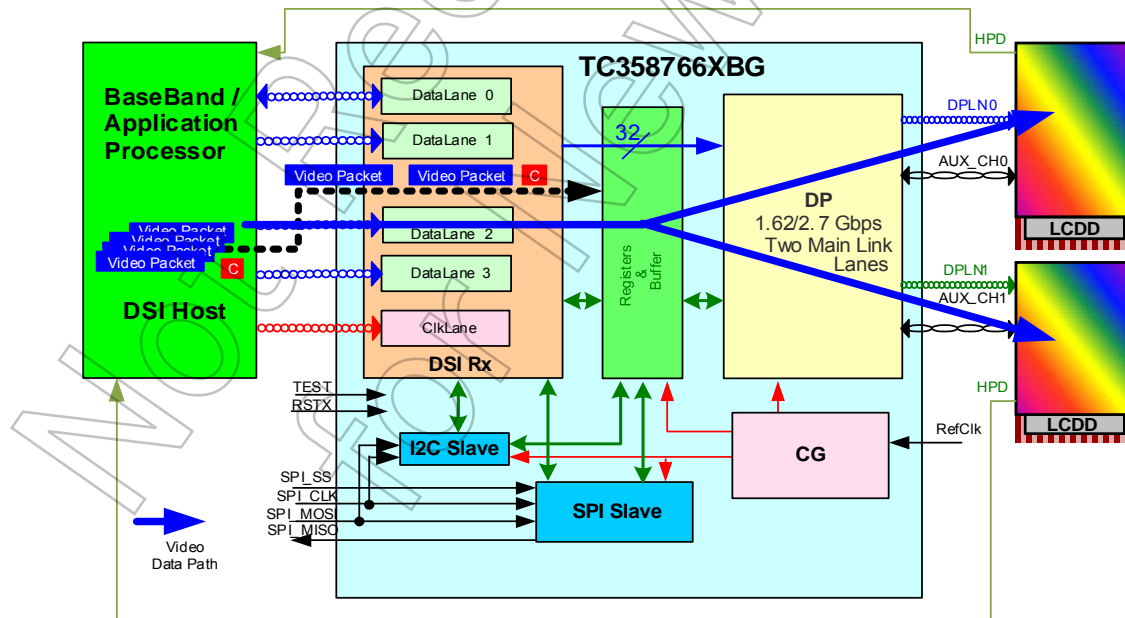

Figure 1.2 System Overview with TC358766XBG in MODE_S22 Configuration
- **Mode_S22:** An alternate system configuration where TC358766XBG may typically be used is shown in Figure 1.2. In this system, TC358766XBG could be connected to two independent displays. In this configuration, the TC358766XBG can support displays with resolution up to WXGA+, WSXGA (1440x900) at 24bit, 60 fps or WSXGA+ (1680x1050) at 18bit, 60 fps. Video stream source is from DSI Host. Both display devices are used to display the same video stream.